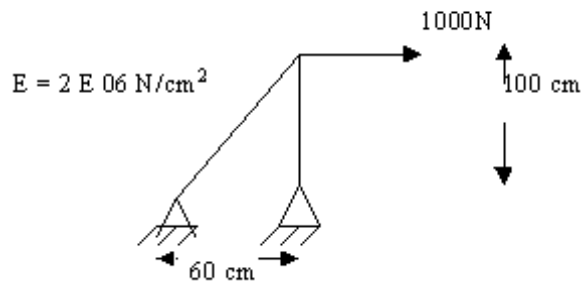

Figure 3
3. The members (1) and (2) are circular in cross section with diameters of 10 cm and 20 cm respectively. Determine the displacement at the node where load is acting. {As shown in the Figure3} [16]